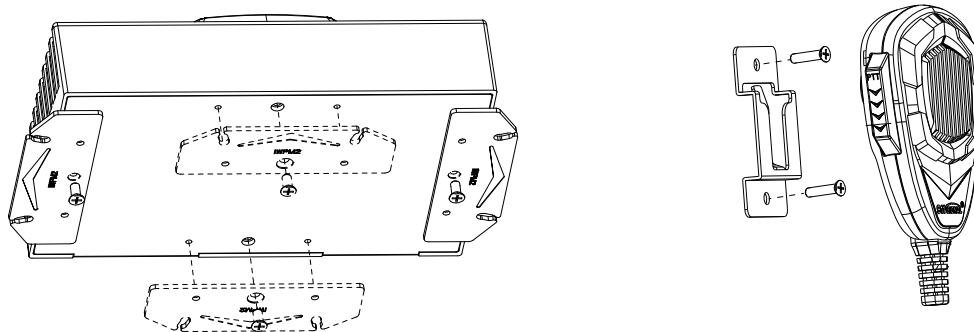

Figure 2-2. Brackets.
2.2.1 Mounting Brackets. See Figure 2-2 (Brackets) There are two ways to choose from.